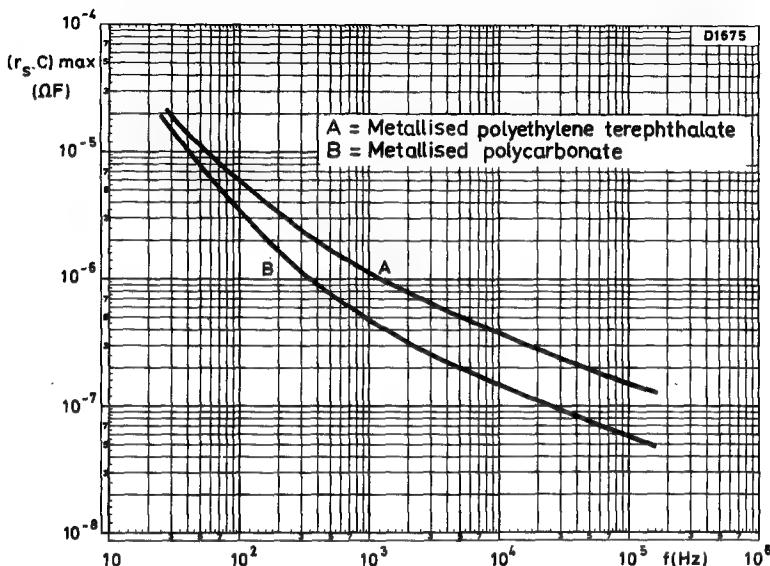

Fig. 2
The term  $(r_s \cdot C)$  has been plotted against frequency in Fig. 2 (see page 3). The application of equation (2), and the value of  $(r_s \cdot C)$  at a particular frequency, will give the maximum power dissipation of the capacitor.
From Fig. 2 the  $(r_s \cdot C)$  product is  $5 \times 10^{-7} \Omega\text{F}$ , therefore the power dissipated is